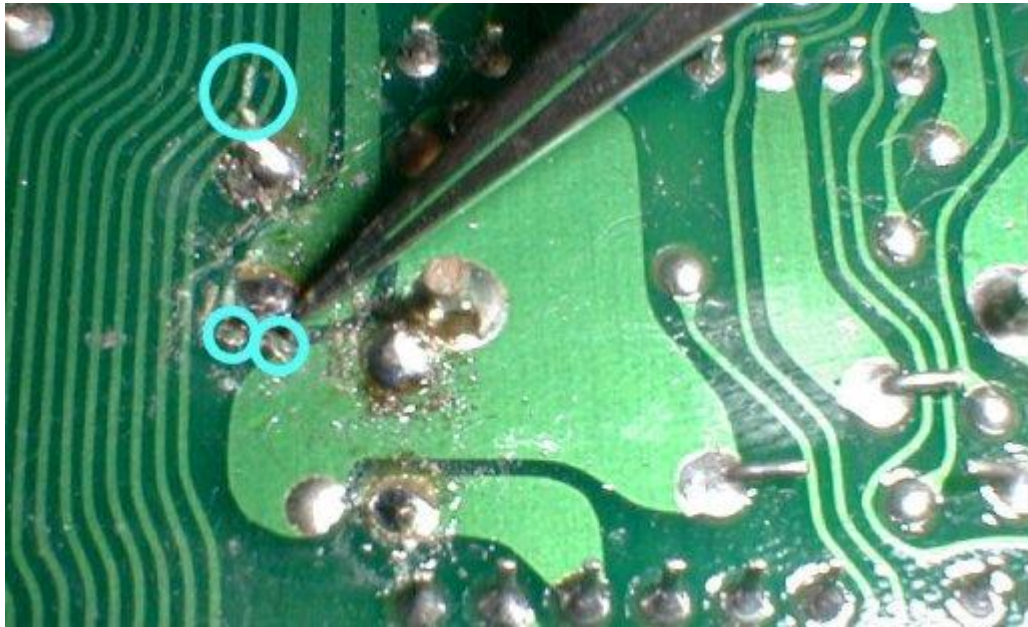

Figure 10
14. **Cleanup.** Almost done! Check out the soldering job using a magnifying glass. Often, the solder will splatter a bit when using the solder sucker and solder braid. Use a fine tweezers as in **Figure 10** to remove each small piece of solder or metal that represents a possible short. Then screw the PC board down into the bottom of the ECU case, put the cover on the ECU case, and you are ready to go!